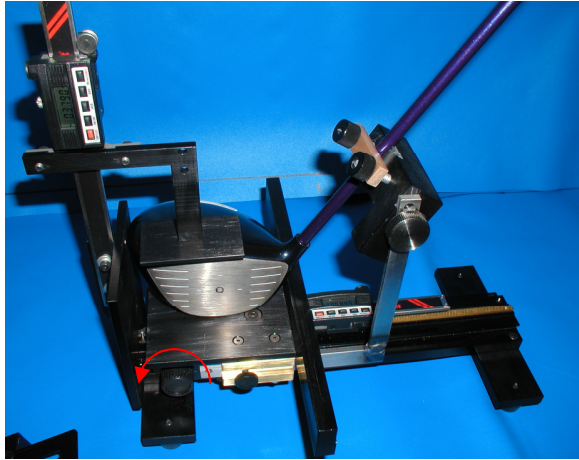

Figure 6.8-Rotate Clamping Assembly Knob until the Toe of Clubhead Rests Against Toe Plate
6.8 Rotate the clamping assembly knob counter-clockwise until the toe of the clubhead just touches the toe plate, and then read the value on the length scale, Figure 6.8